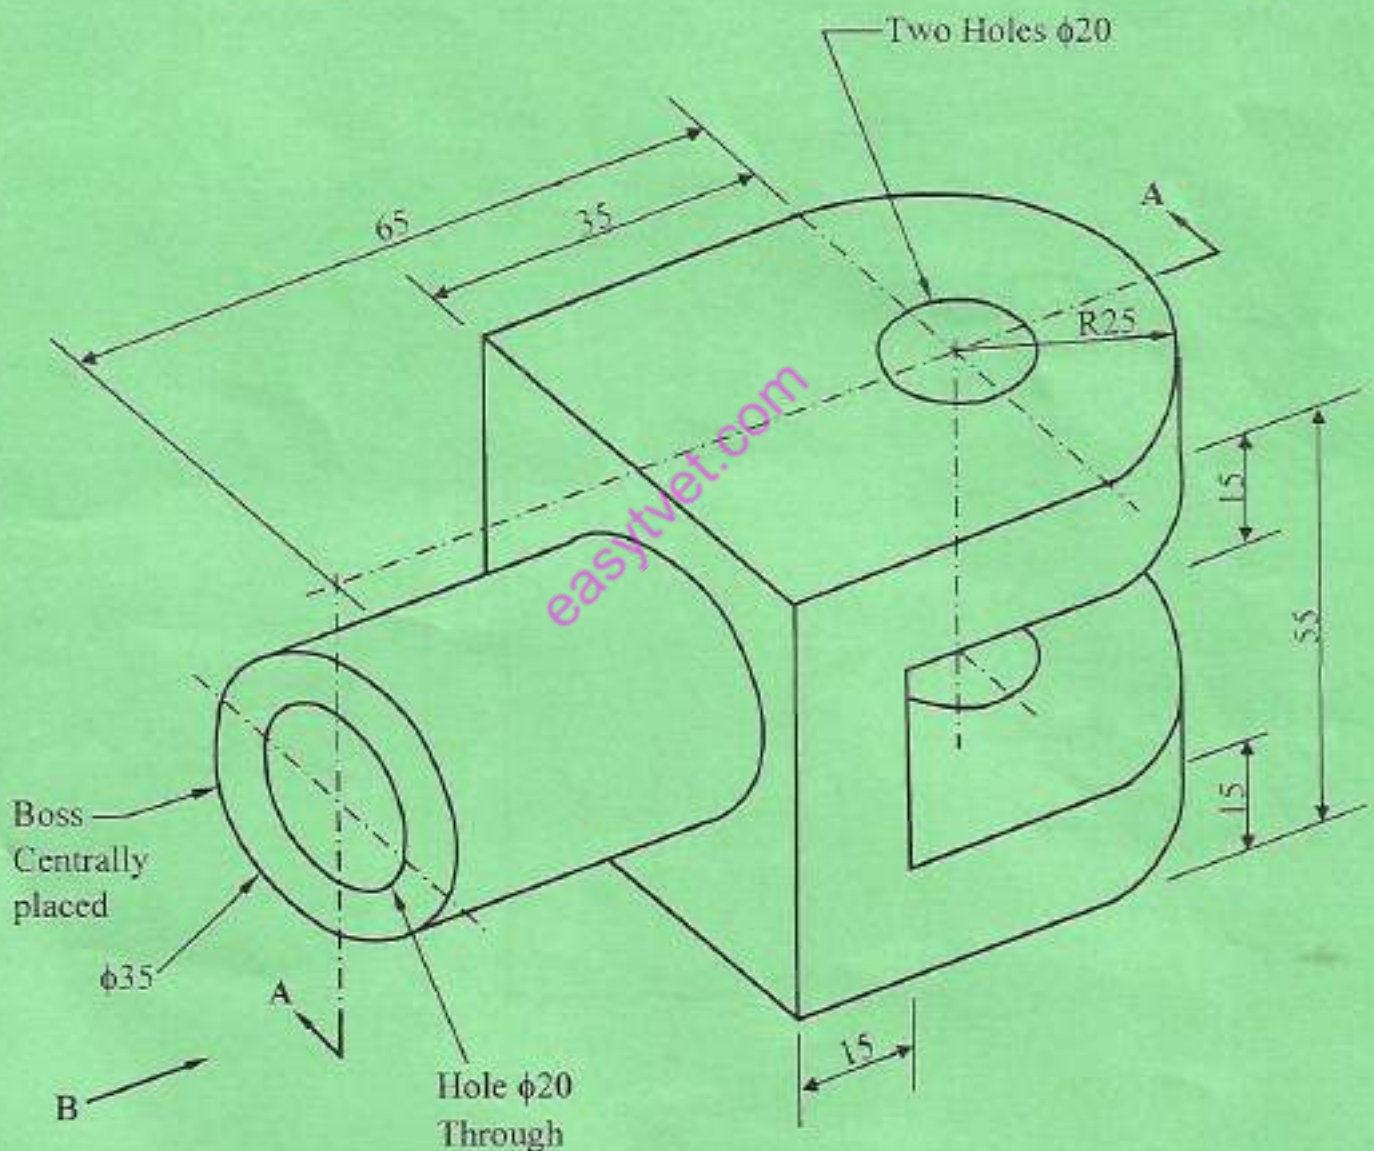

Fig. 1: TOWING HOOK
5. Figure 1 shows a pictorial view of a towing hook. Draw full size, the following views in first angle projection: